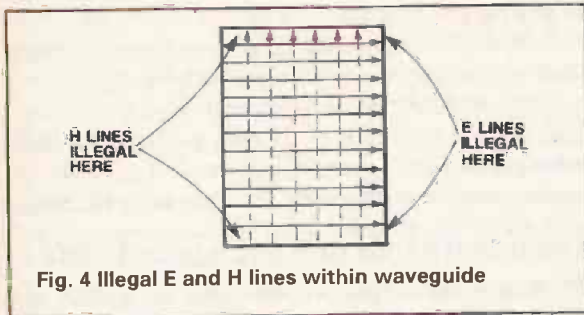

Fig. 4 Illegal E and H lines within waveguide
1. The Boundary Law for E lines (Figure 4)